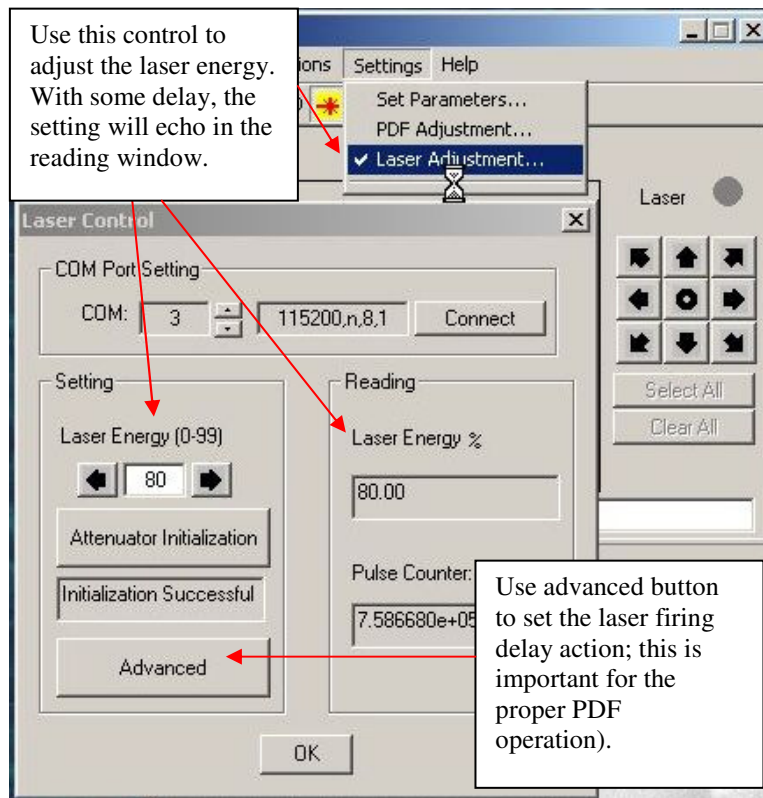

Figure 7.19 Laser Adjustment Dialog
- Fig. 7.19 represents a screen copy made during an AP/MALDI spectrum measurement of CHCA matrix. You can easily switch between the *XCalibur* and *TARGET* programs to operate both the MS and AP/MALDI source from the same computer. Or alternatively, separate computers can be used to run *TARGET* software and operate AP/MALDI.